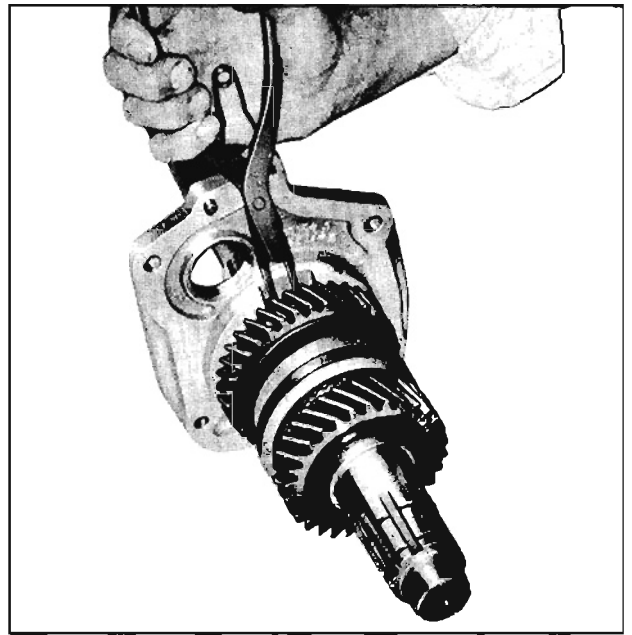

Fig. 7-213 Removing Rear Bearing Retainer
16. Spread rear bearing retainer snap ring and press mainshaft out of the retainer. (Fig. 7-213)
9. Install the rear bearing retainer. (Fig. 7-213) Spread the snap ring in the plate to allow the snap ring to drop around the rear bearing and press on the end of the mainshaft until the snap ring engages the groove in the rear bearing.